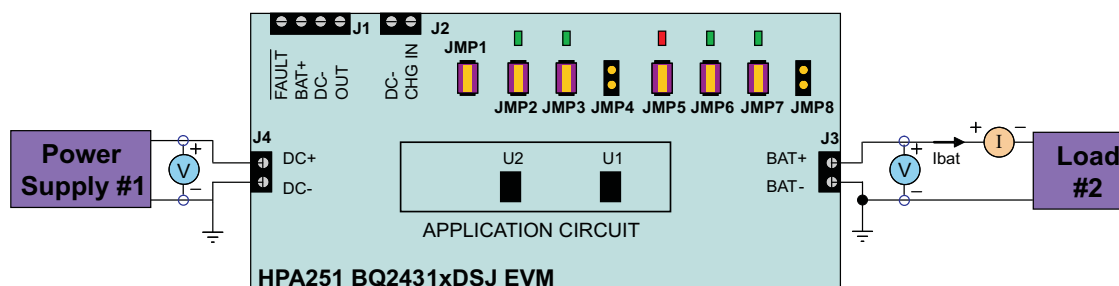

Figure 3. Chipset Test Setup for HPA251 (bq2431x DSJ EVM)
- After the preceding steps, the test setup for HPA251 (bq2431x DSJ EVM) is as shown in Figure 3.